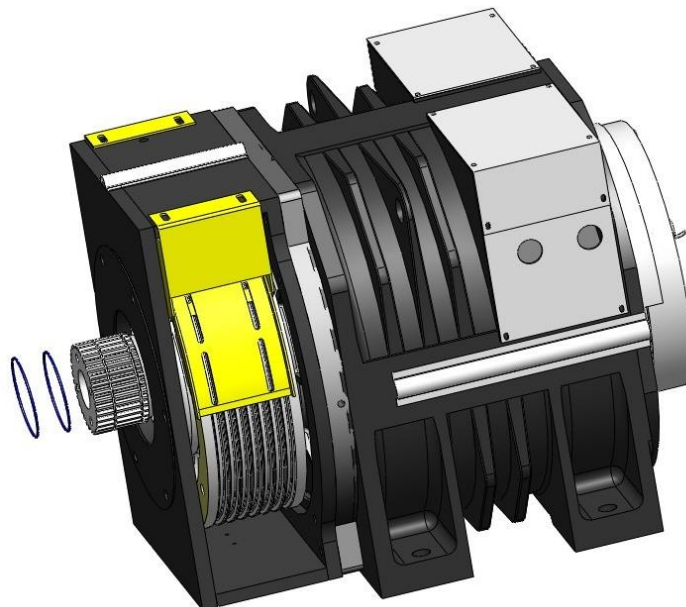

Figure 37: Install O-rings
6. Replace the O-ring ($\text{Ø}109 \times 3.1$) if necessary. See Figure 37.